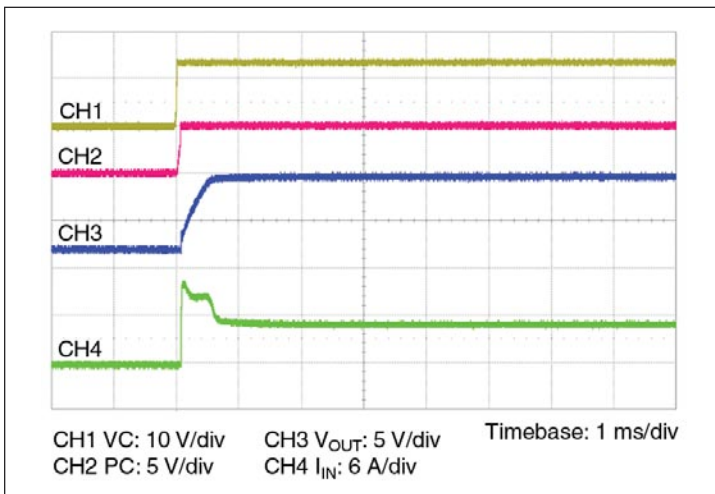

Figure 11 — Start up from application of VC;
- Stand-alone operation (VC applied after V_{IN}): In this case the VTM output will begin to rise upon the application of the VC voltage (See Figure 11). The Adaptive Soft Start Circuit (See Section 11) may vary the output rate of rise in order to limit the inrush current to its maximum level. When starting into high capacitance, or a short, the output current will be limited for a maximum of 1200 μ sec. After this period, the Adaptive Soft Start Circuit will time out and the VTM module may shut down. No restart will be attempted until VC is re-applied or PC is toggled. The maximum output capacitance is limited to 2300 μ F in this mode of operation to ensure a successful start.